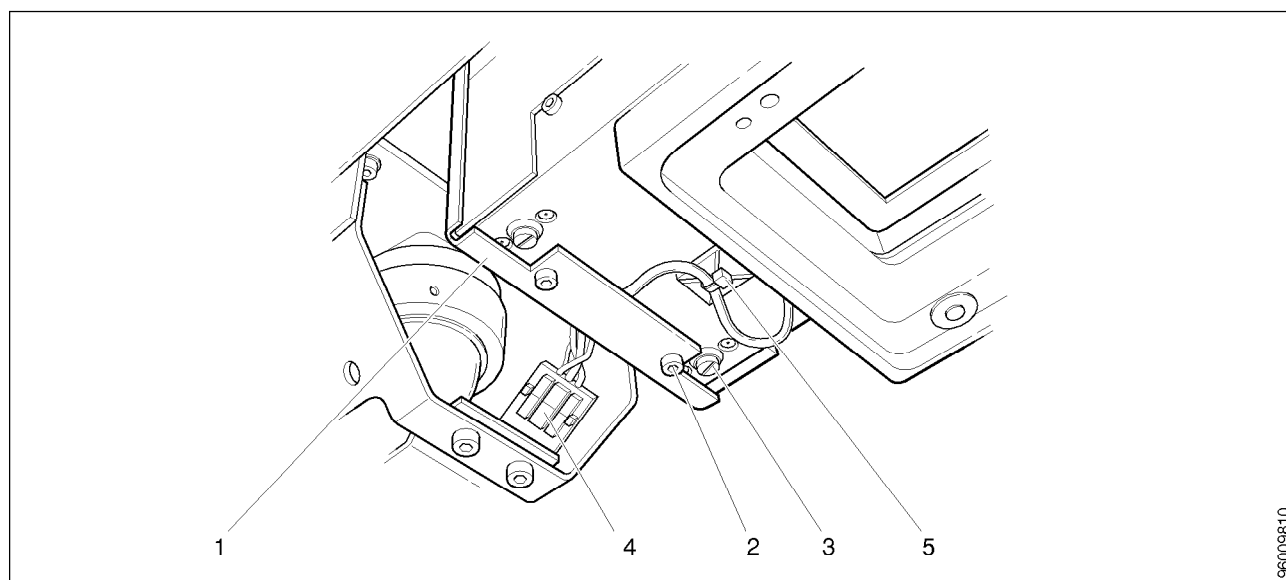

Fig. 2
- Remove the Allen screws (2/Fig. 2); remove the back plate (1/Fig. 2).
- Loosen the slotted screws (3/Fig. 2) by one-quarter turn.